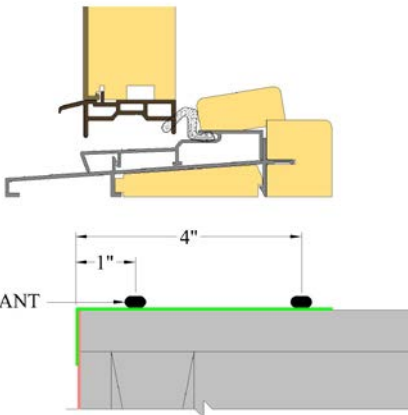
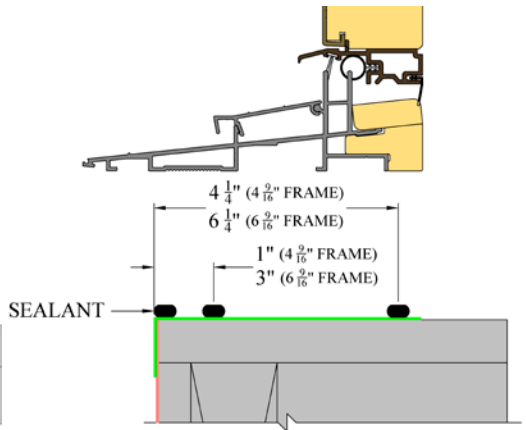

Fig. 12: Outswing Patio Door Sill
Fig. 13: 4 9/16" & 6 9/16" Inswing Patio Door
- a. Apply three 1/4" continuous beads of silicone across the entire width of the rough opening. Note that the locations are different for each door type. Fig. 13 shows the silicone location for a 4 9/16" and 6 9/16" inswing door. The bead location will be different for other jamb sizes. (Fig. 12 & 13)